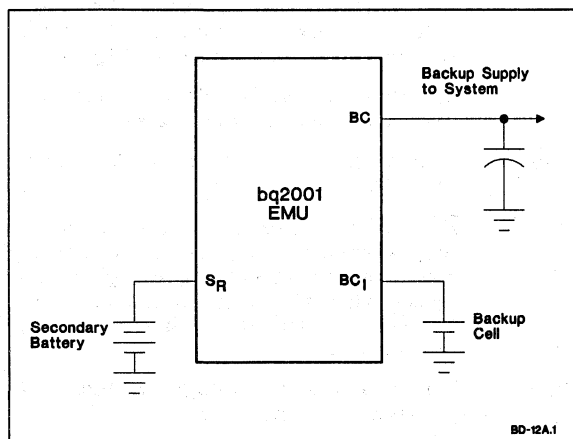

Figure 1. Backup Supply and Sources
- BC is the backup cell supply output pin. A voltage regulated from SR to the voltage value on BCI is output on BC as a backup source for a real-time clock, data retention, and other battery-backed requirements (see Figure 1). For proper regulation, the BC pin must be provided a minimum capacitance of 0.1μF and a maximum of 1.0μF.
- BCI is the supply input for a backup cell. BCI also provides the reference voltage to which the secondary battery is regulated for internal data retention and output on BC. No protective circuits are required between the backup cell and BCI (see Figure 1).